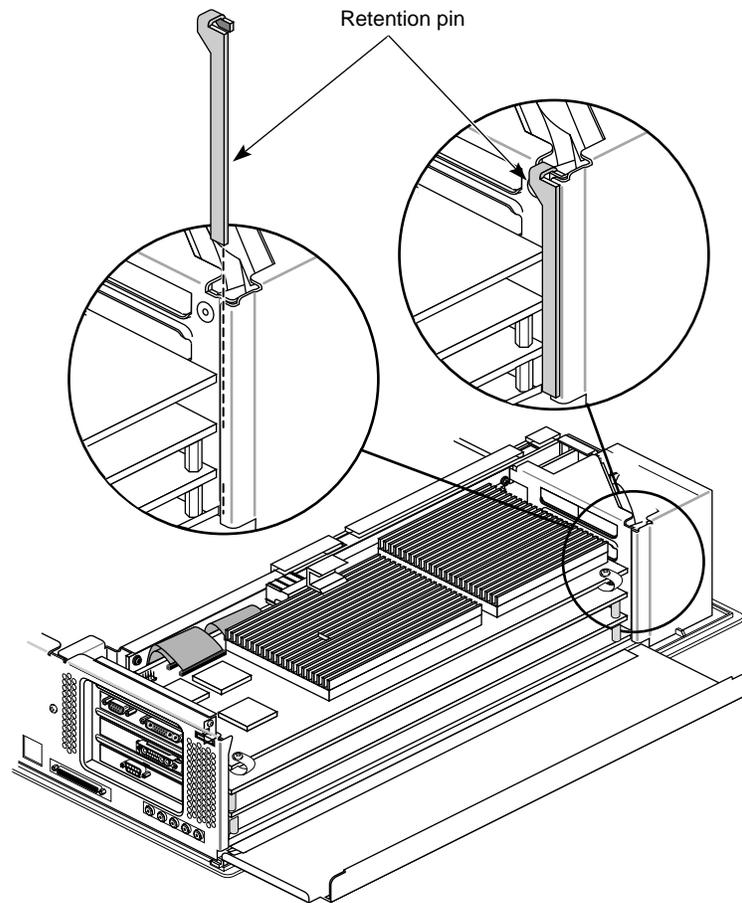

Figure 5-8 Releasing the Retention Pin
- Grasp the retention pin on the right front end of the board set and pull it up and off. See Figure 5-8.